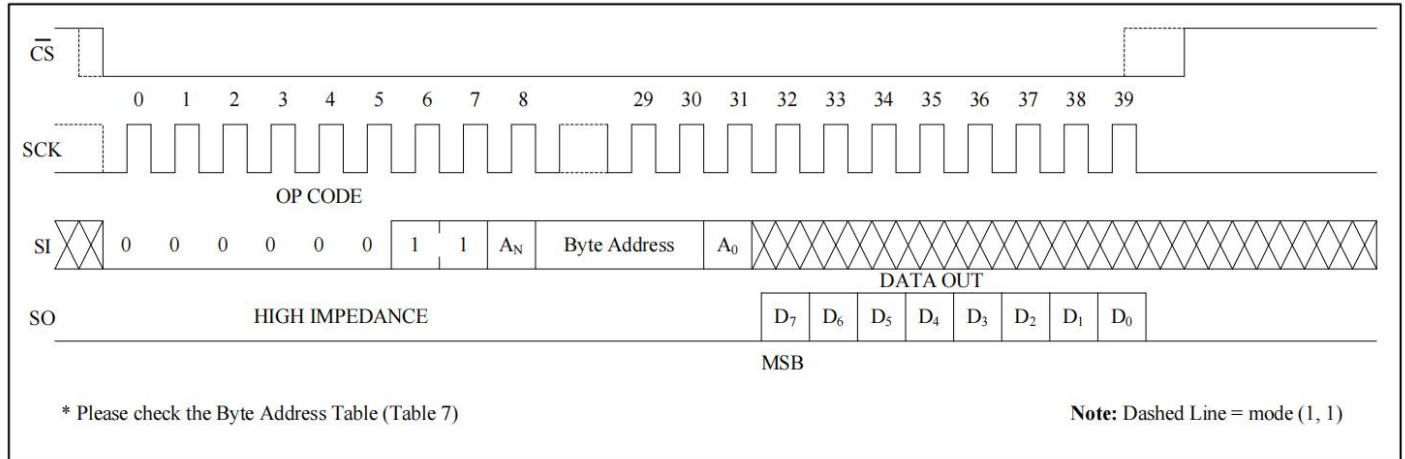

Figure 10
**Read from Memory Array:** To read from memory, the host sends a READ instruction followed by a 24-bit address (see Table 6 for the number of significant address bits). After receiving the last address bit, the 25M01 will respond by shifting out data on the SO pin (as shown in Figure 10). Sequentially stored data can be read out by simply continuing to run the clock. The internal address pointer is automatically incremented to the next higher address as data is shifted out. After reaching the highest memory address, the address counter “rolls over” to the lowest memory address, and the read cycle can be continued indefinitely. The read operation is terminated by taking  $\overline{CS}$  high.